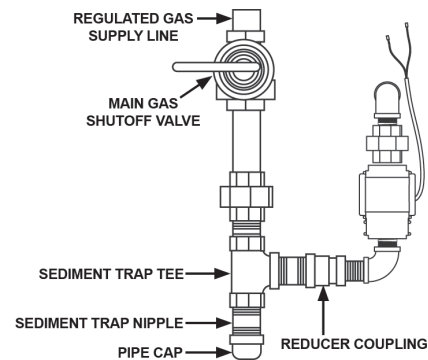
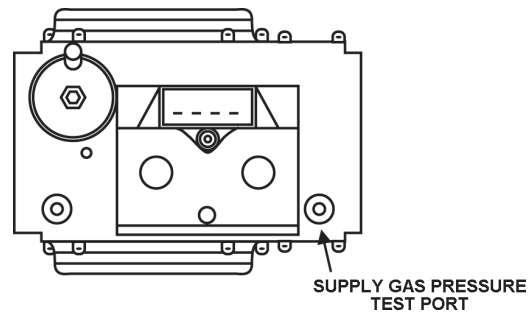

FIGURE 21.
FIGURE 22. – TOP VIEW
To trap any dirt or foreign material in the gas supply line, a sediment trap must be incorporated in the piping (see Figure 21). The sediment trap must be readily accessible and not subject to freezing conditions. Install in accordance with recommendations of serving gas suppliers. Refer to the latest version of the National Fuel Gas Code.
1. For test pressures exceeding 1/2 psi (3.45 kPa) disconnect the water heater and its Main Gas Shutoff Valve from the gas supply piping system during testing, see Figure 21. The gas supply line must be capped when disconnected from the water heater.
1. Close the Main Gas Shutoff Valve, see Figure 21 on page 23.
3. Close the Main Gas Shut Off Valve, see Figure 21 on page 23.
4. Wait five (5) minutes for any residual gas to clear.
5. Open the Supply Gas Pressure Port on the gas valve by turning the center screw counter-clockwise. Connect the manometer to the supply gas pressure test port, see Figure 22 on page 25.